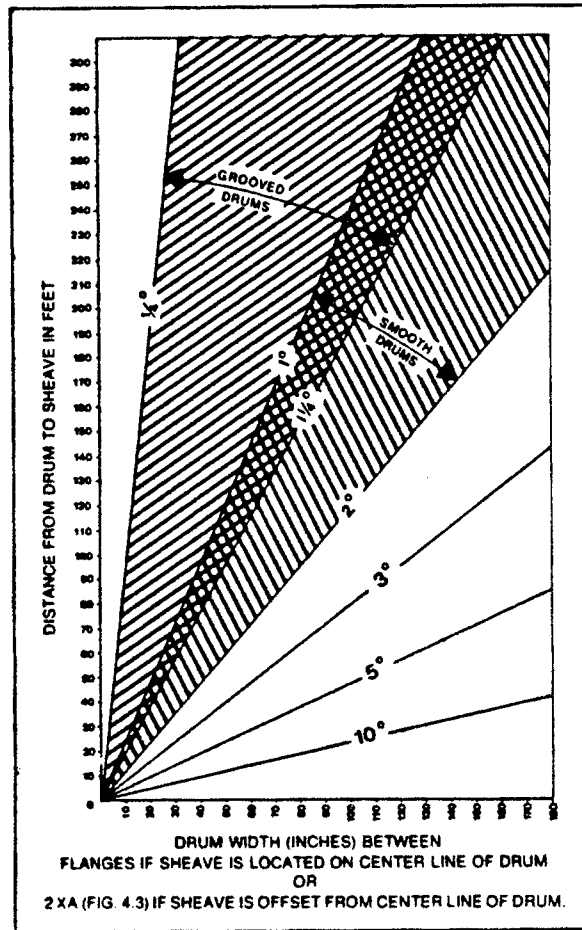

Fig. 2-9 Fleet angle determination
- b. The fleet angle is the maximum angle the wire rope will travel between the sheave and the drum (See **Figure 2-9**.) For optimum efficiency the angle should not exceed 1 1/2 degrees. Larger fleet angles cause excessive sheave wear and grinding of the rope, turn against turn, on the drum. Excessively large angles will cause the rope to wind open on the drum and at the flange, and the rope will jump or skip several turns when rising from one layer to the next.